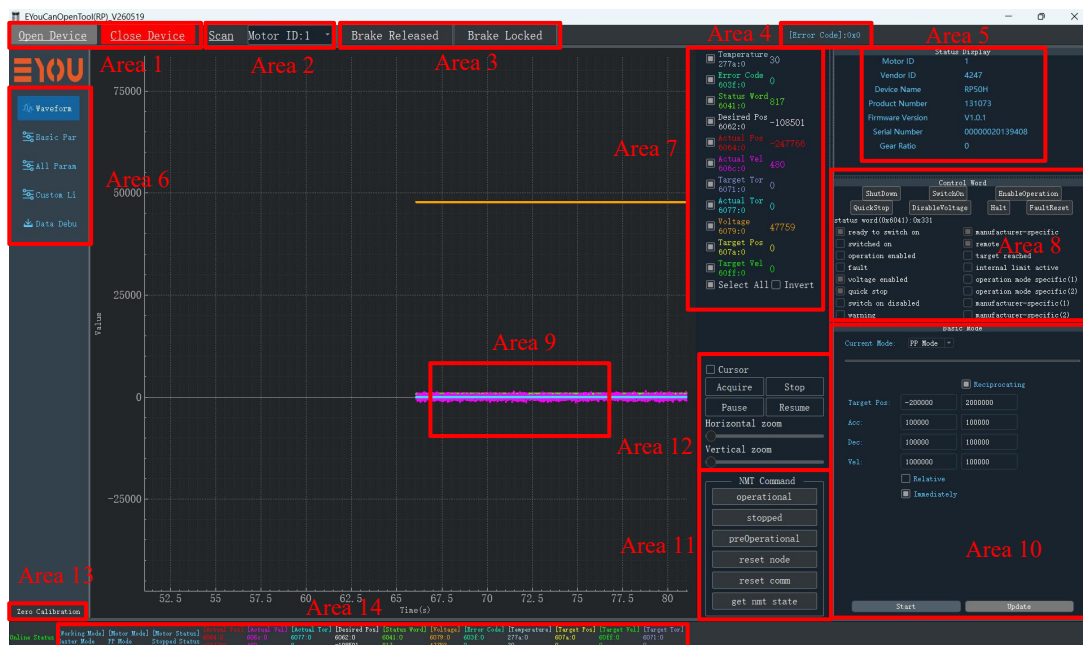

Figure 3-3 Waveform 2display interface diagram
- 1) The <Waveform Display> interface is shown in Figure 3-3: